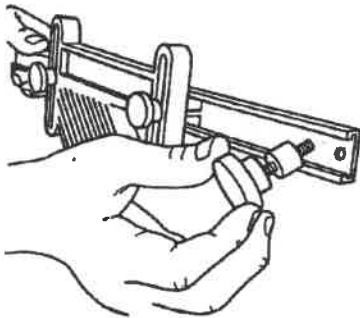

Fig. A-36
1. Put a spacer (2) on the knob (3) threads and insert the shaft through the slot extrusion (1), as shown in Fig. A-36.